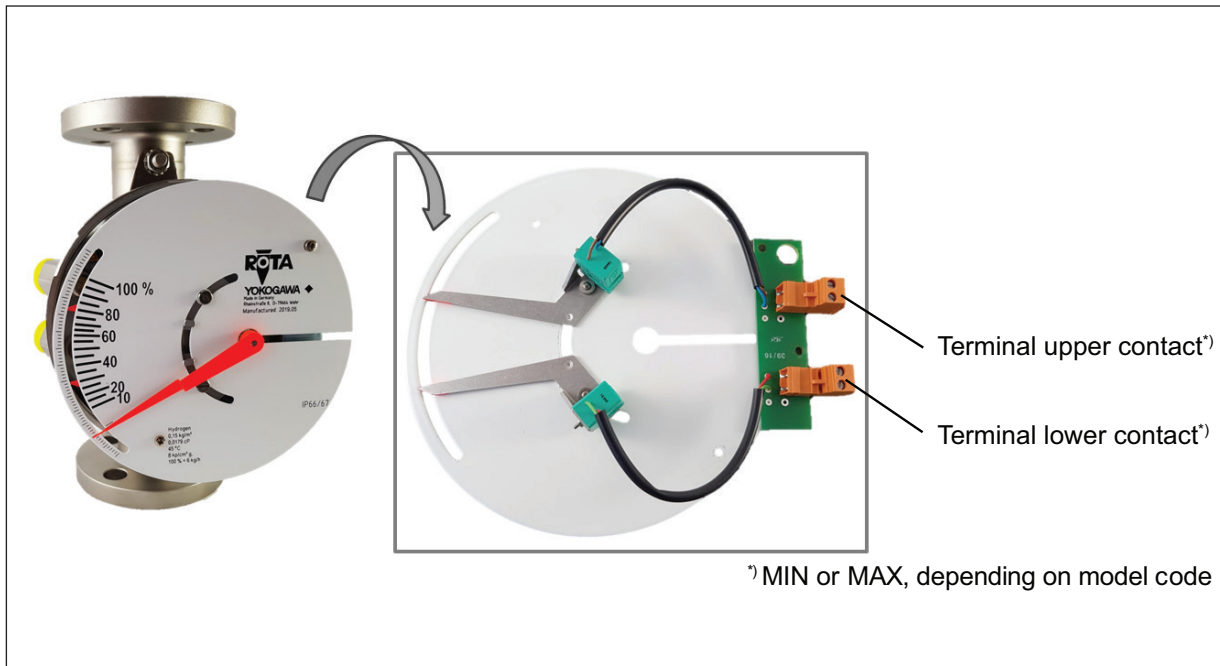

Fig. 3-3 RAMC with 2 limit switches
- For units with a nominal voltage of 115 V or 230 V the correspondingly marked terminal has to be connected to protective earth (PE), see fig. 3.3.